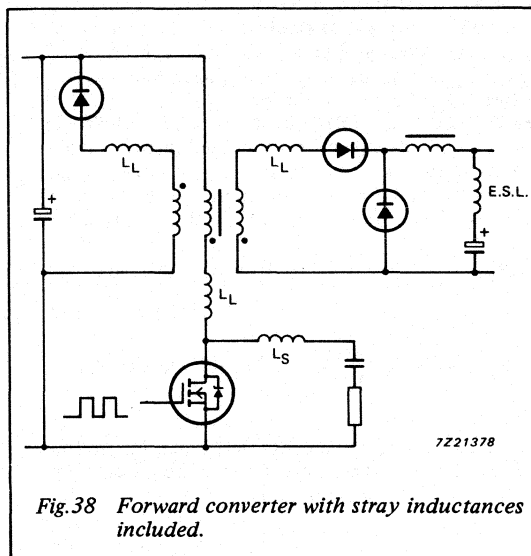

Fig.38 Forward converter with stray inductances included.
- Stray circuit inductance L_S (Fig.38) and transformer leakage inductance L_L which can cause serious voltage overshoot and ringing on the transistor drain waveform. Voltage overshoot can cause $V(BR)_{DS}$ to be exceeded – with the risk of device failure. Ringing can produce radio frequency interference (rfi).
- Equivalent series inductance ESL in output smoothing capacitors (Fig.38) can limit the reduction in output choke size at higher frequencies.